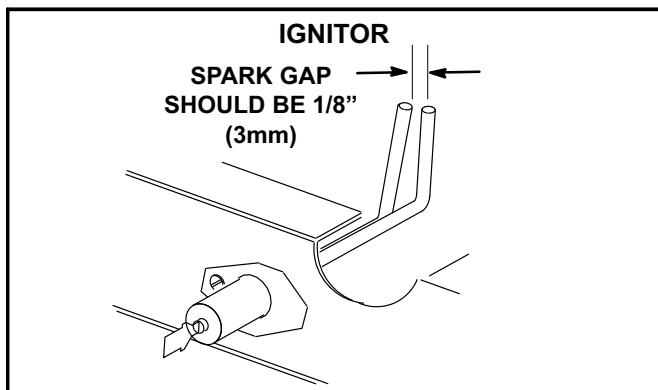

FIGURE 28
- 4- Locate the ignitor under the left burners. Check ignitor spark gap with appropriately sized twist drills or feeler gauges. See figure 28.